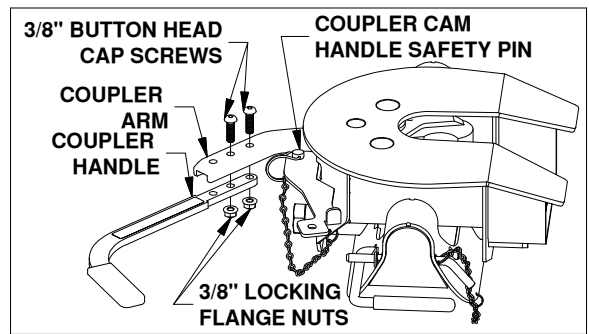

FIGURE F1: View looking down at side of coupler head.
1. Locate the two 3/8" x 1-1/4" button head cap screws and the two 3/8" flanged lock nuts provided in a bolt bag. Pull out the coupler arm and pin it with the safety locking pin near the base of the arm as shown in figure F1.
Using the button cap screws and the lock nuts attach the coupler handle to the arm and tighten, see figure F1. Pull out the coupler cam handle safety pin.